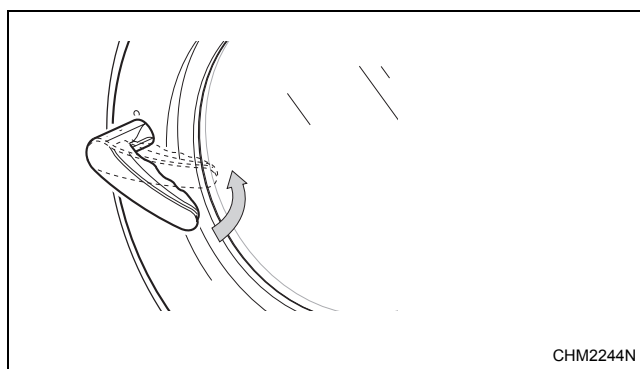

Figure 5
4. Close door and turn handle counter clockwise. Refer to *Figure 5*.